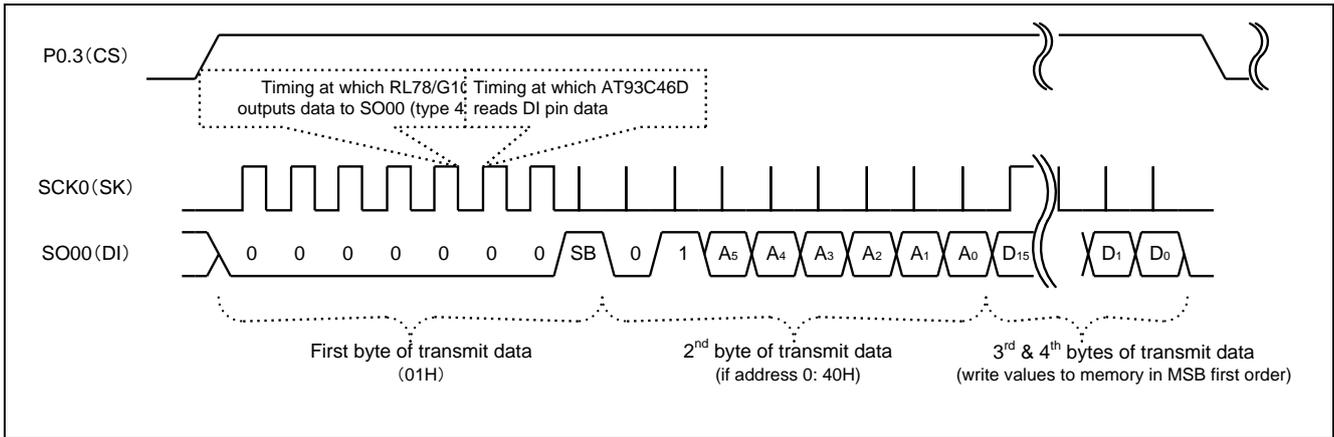

Figure 5.1 WRITE Instruction Execution Timing
(2) Execute the EWEN instruction (Write/Erase Enable) for the external target device (AT93C36D). This will enable use of the WRITE instruction and ERAL instruction (Erase All Areas).
(3) Execute the ERAL instruction (Erase All Areas) for the external target device. Then set the target device's CS pin to Low (not selected state), wait the specified time, and confirm the DO pin (status). Repeat this process until the DO pin goes to High (all area erase complete status).
(4) Execute the WRITE instruction (Write data) for the external target device. Then set the target device's CS pin to Low (not selected state), wait the specified time, and confirm the DO pin (status). Repeat this process until the DO pin goes to High (write complete). After write completion is confirmed, each write address and write data are updated, and the process is repeated 64 times, from target device address 0 to 63.
Two bytes of data are written to each address. In addition, a total of 25 bits (including 9 corresponding bits: start bit (1), PoC (2), and address (6)), are stored in LSB order in the 4-byte transmit buffer and transmitted prior to the write data. The following bytes are then sent in MSB first order: 1st byte 00000001B, 2nd byte 01A₅A₄A₃A₂A₁A₀B, 3rd byte D₁₅D₁₄D₁₃D₁₂D₁₁D₁₀D₉D₈ and 4th byte D₇D₆D₅D₄D₃D₂D₁D₀. The external target device (AT93C36D) reads data from the DI pin at the clock's rising edge, which the RL78/G10 CSI supports with phase type 4. Figure 5.1 shows the WRITE instruction execution timing.